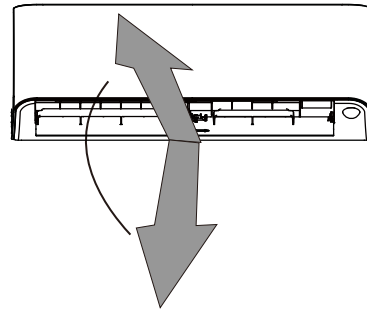

Fig. 14 – Up-Down Louver Position
1. Press **SWING ↑** (up-down airflow) on the remote control once to activate the louver. Each time you press **SWING ↑**, the louver adjusts by 6 degrees. Press **SWING ↑** until the preferred direction is reached (see Fig. 14).